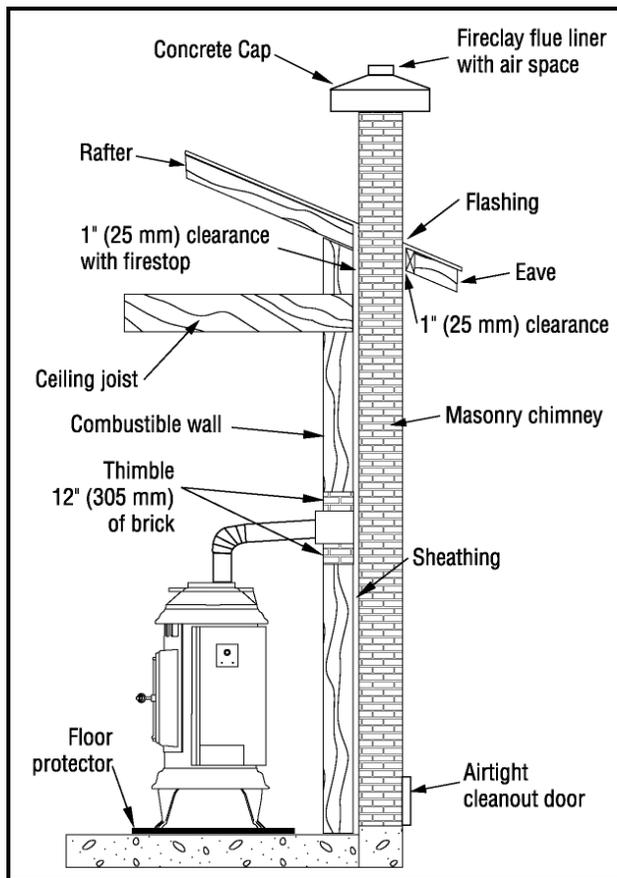
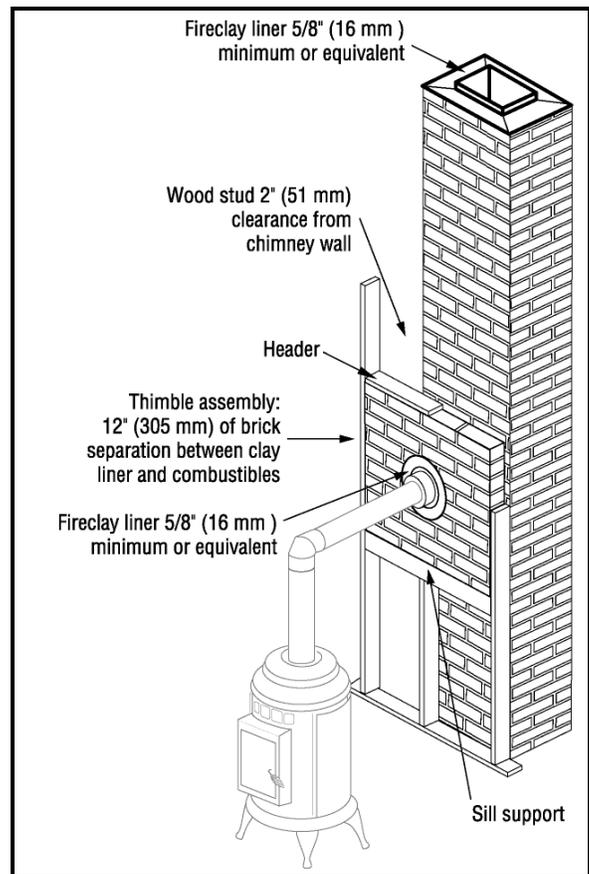

FIGURE 11. MASONRY CHIMNEY
FIGURE 12. MASONRY CHIMNEY
- B. APPROVED MASONRY (see specifications in Figure 12 and Figure 13) with at least 5/8” (16mm) fire clay lining joined with refractory cement or other listed system suitable for use with wood stoves.
When connecting the stove through a combustible wall to a masonry chimney, special methods are needed. There are several ways to make this connection. Refer to the masonry diagrams in Figure 11 and Figure 12, and check with your local building officials to make sure the installation conforms with CAN/CSA-B365.